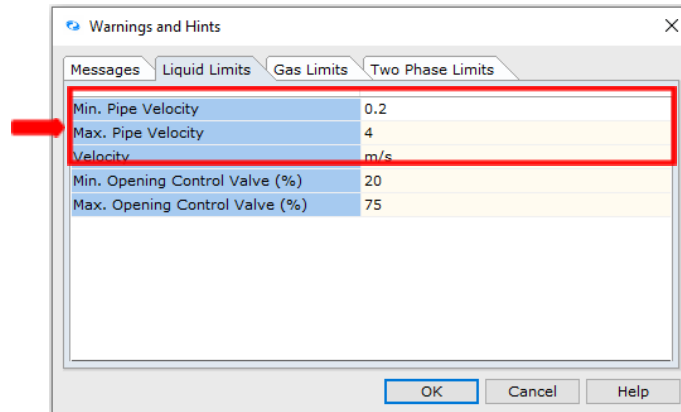

Figure 31: Warning and Hints: Liquid Limits.
Since we are modeling a liquid system, we are only interested in the Liquid Limits (Figure 31).
34. As we can see in Figure 30, the actual flowing velocity of the fluid is **3.35 m/s** which is within the **0.2 – 4 m/s** range for the minimum and maximum pipe velocity (Figure 31). The high-velocity warning is enunciated once the actual flowing velocity is higher than the maximum velocity level set in our warnings (**4 m/s** – See Figure 31).